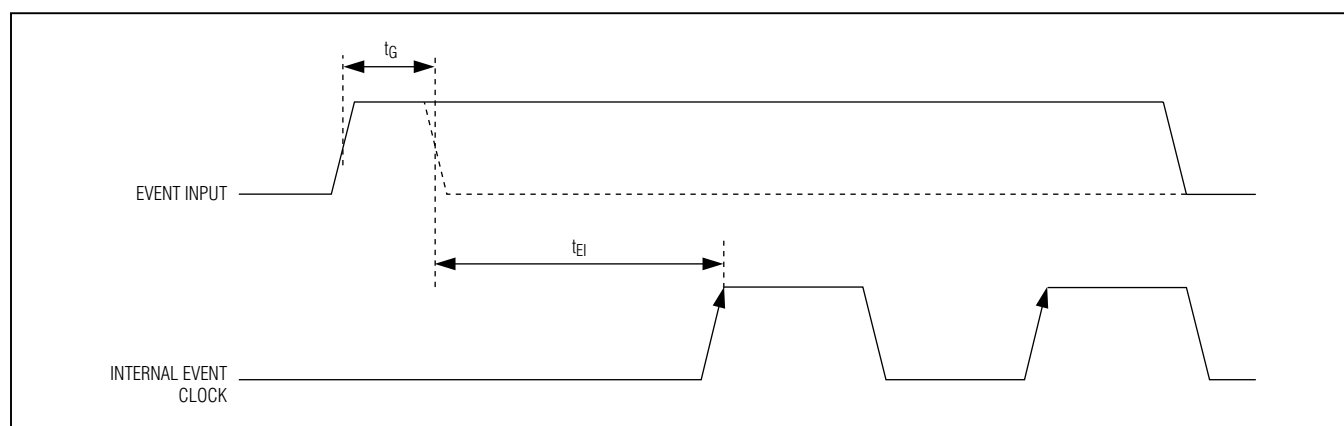

Figure 2. Event Input Timing
- 2) After the glitch filtering and t_{EI} , the ETC SRAM counter value increments. See Figure 2 for timing. An event greater than time event minimum (t_G) but less than t_{EI} (i.e., a low-high-low transition on EVENT < t_{EI}) increments the Event Counter SRAM value but not the ETC SRAM value.